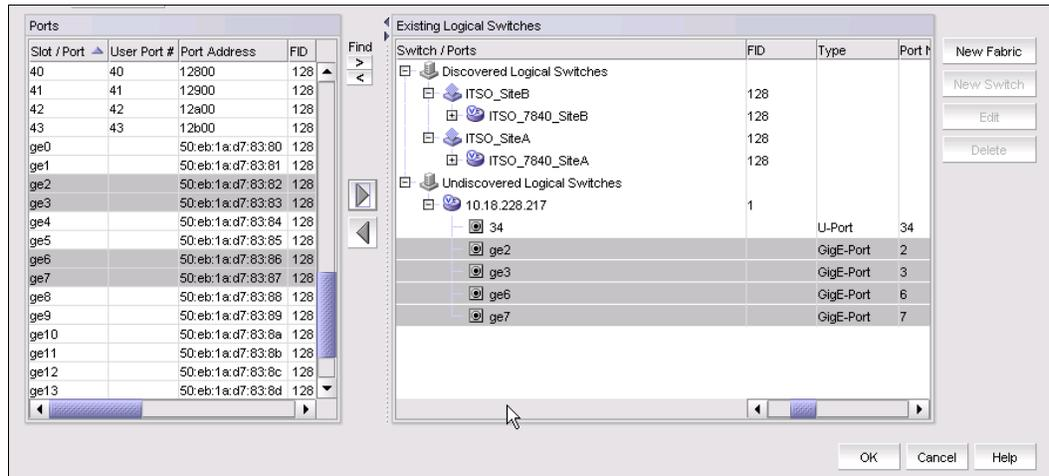

Figure 6-8 Move ports to base logical switch
- As shown in Figure 6-8, the following ports are assigned to the base logical switch: ge2, ge3, ge6, ge7, and 34 (VE port). Click **OK** to confirm the setting and complete the task of logical switch creation.